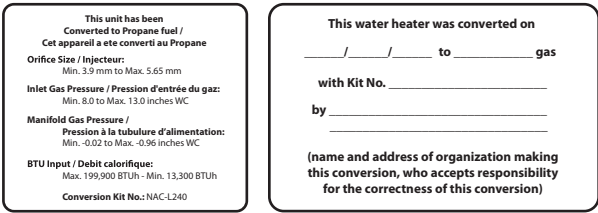

Figure 11. Proper Placement of Gas Conversion Labels
13. Once the CO₂ or offset values have been confirmed, apply the included conversion stickers to show that the appliance has been converted to propane gas. Place this labels adjacent to the rating plate as shown in Figure 11.